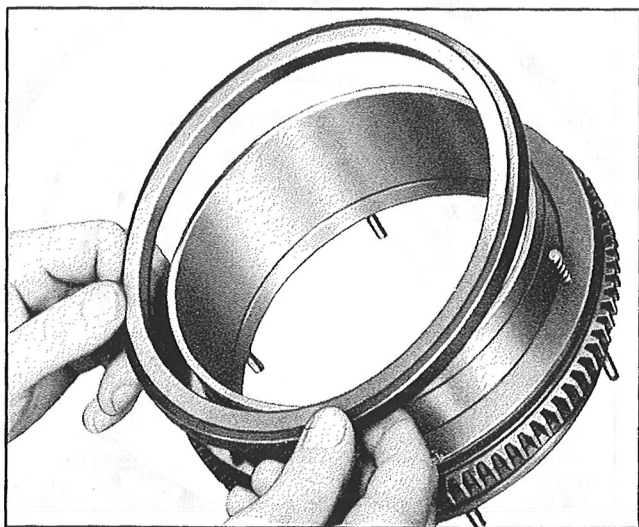

Figure 192—Installation of Seals on Regulator Gear
l. Press a new housing seal assembly and a new cover seal assembly on the regulator gear so that the lips of the seals face inwardly toward each other. See Figure 192.